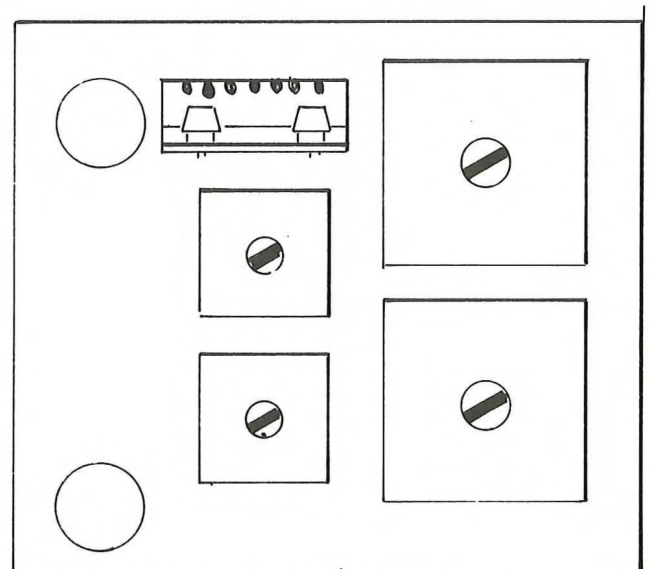

Fig. 4
- () 4. Connect wires to the rectifier assembly as shown in Fig. 4.